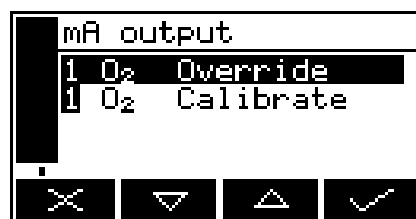

Figure 57 – The mA output service screen
4. When the mA output has been correctly calibrated, press the  soft key: the mA output service screen (Figure 57) will then be displayed again.